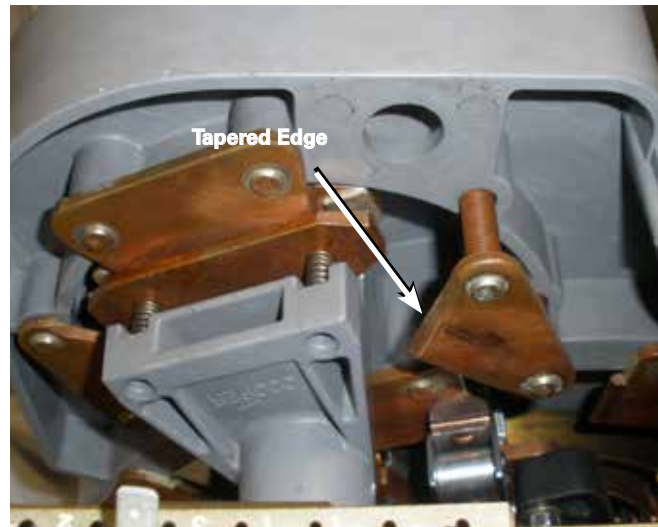

Figure 5. VR reversing stationary contact removal
4. Remove the VR reversing stationary contact from the contact assembly panel. See Figure 5.
5. Install the new VR reversing stationary contact into the mounting holes in the contact assembly board. Make sure when installing the contact that the leading tapered edge is positioned toward the reversing neutral stationary contact. If the tapered edge is facing in the wrong direction, the stationary VL contact is being used. See Figure 5.